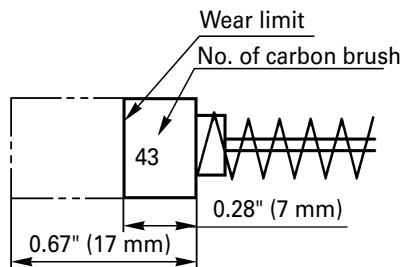

Fig. 17
- Inspecting the carbon brushes: (Fig. 17)
Use metabo HPT carbon brush No. 43 indicated in Fig. 17